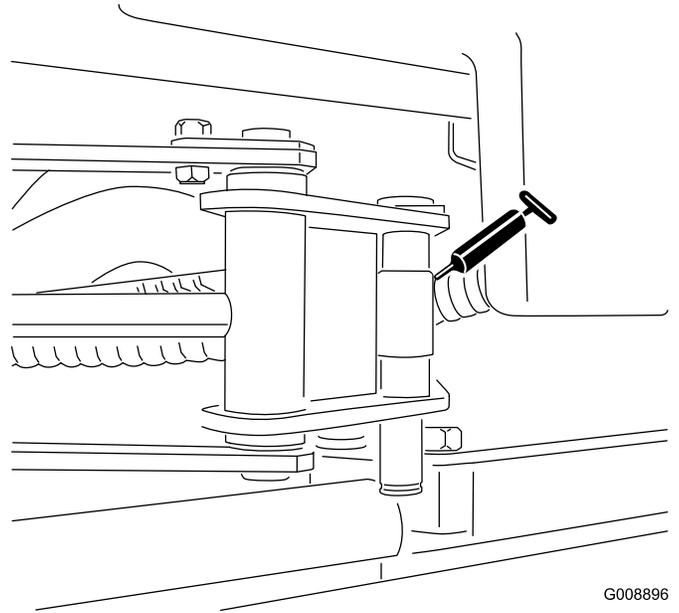

Figure 32
- SideWinder cylinder ends (2) (Figure 32)